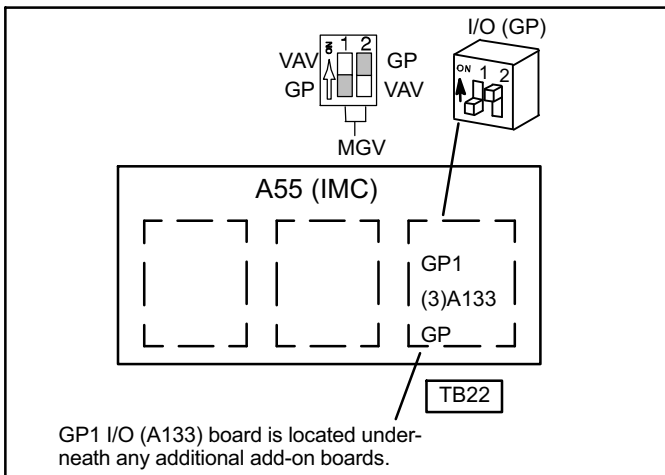

Figure 2. GP1 Board Position on IMC
3. Confirm that DIP switch on I/O board is set as shown in figure 2.
6. Carefully remove GP1 board from protective packaging. Properly position board over the molex connector at the far top right of the main control board. See figure 2.